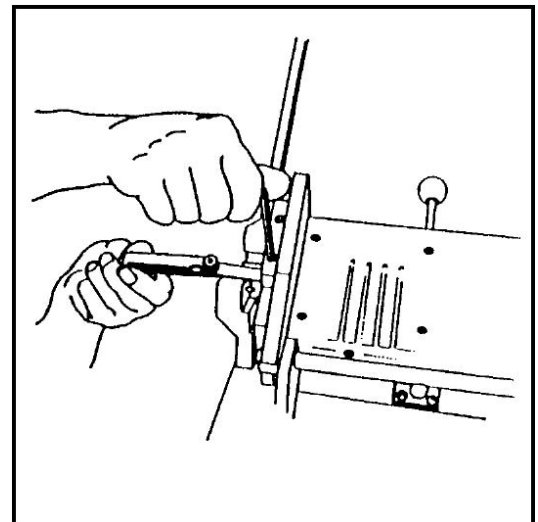

Fig. 22
- c) Insert the 3/16 inch Hex Key through the holes on the top of the Locking Plate Assembly. (See Figure 22) and into the socket head screws.